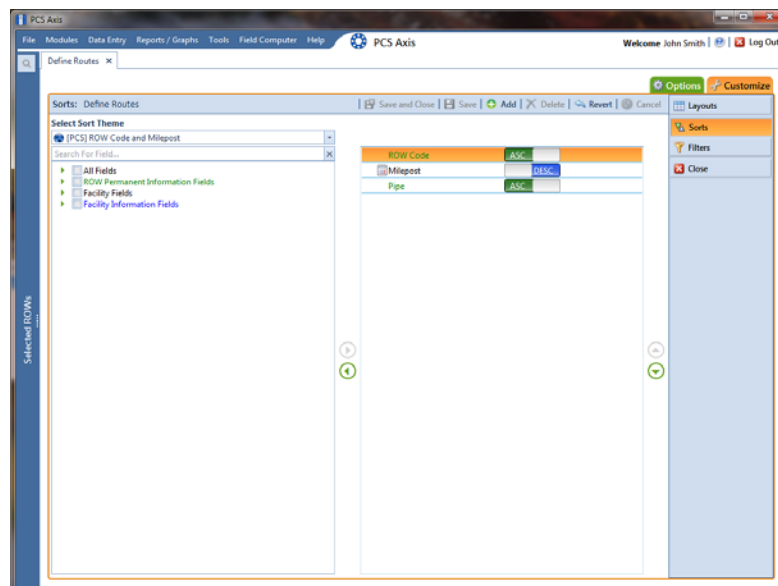

Figure 8-48. Sorts
- 3 Click the **Customize** tab , then the **Sorts** button  to open the *Sorts* page (Figure 8-48, page 402).